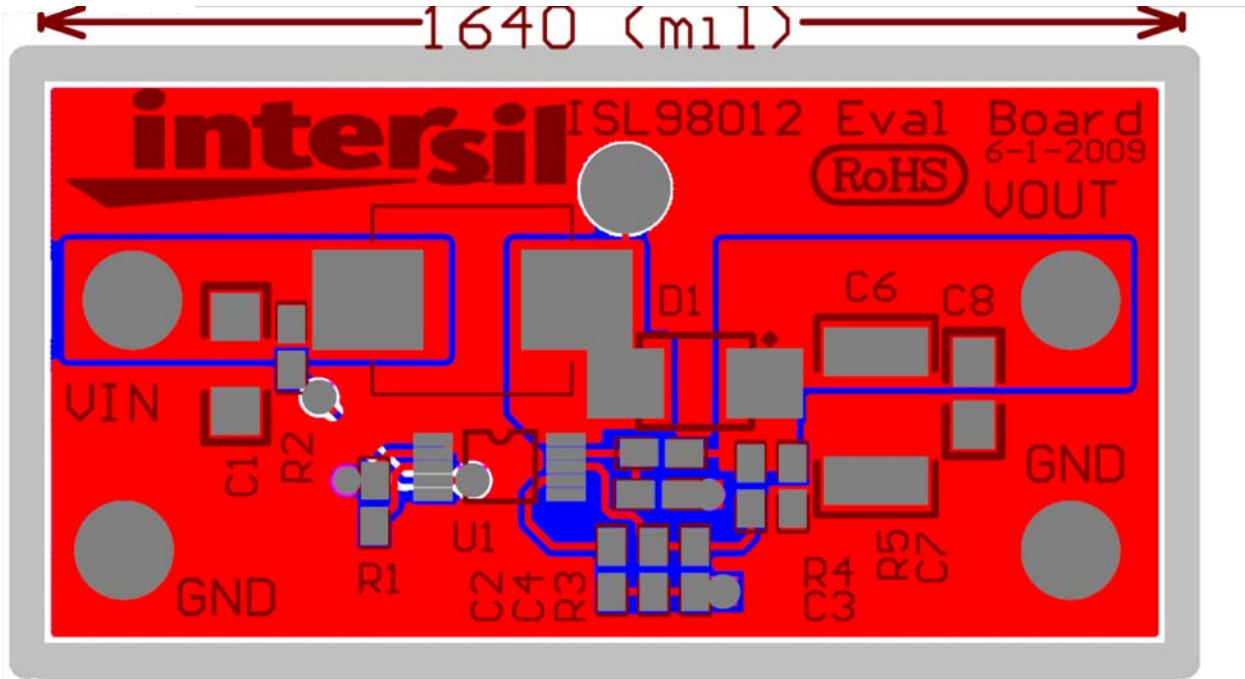
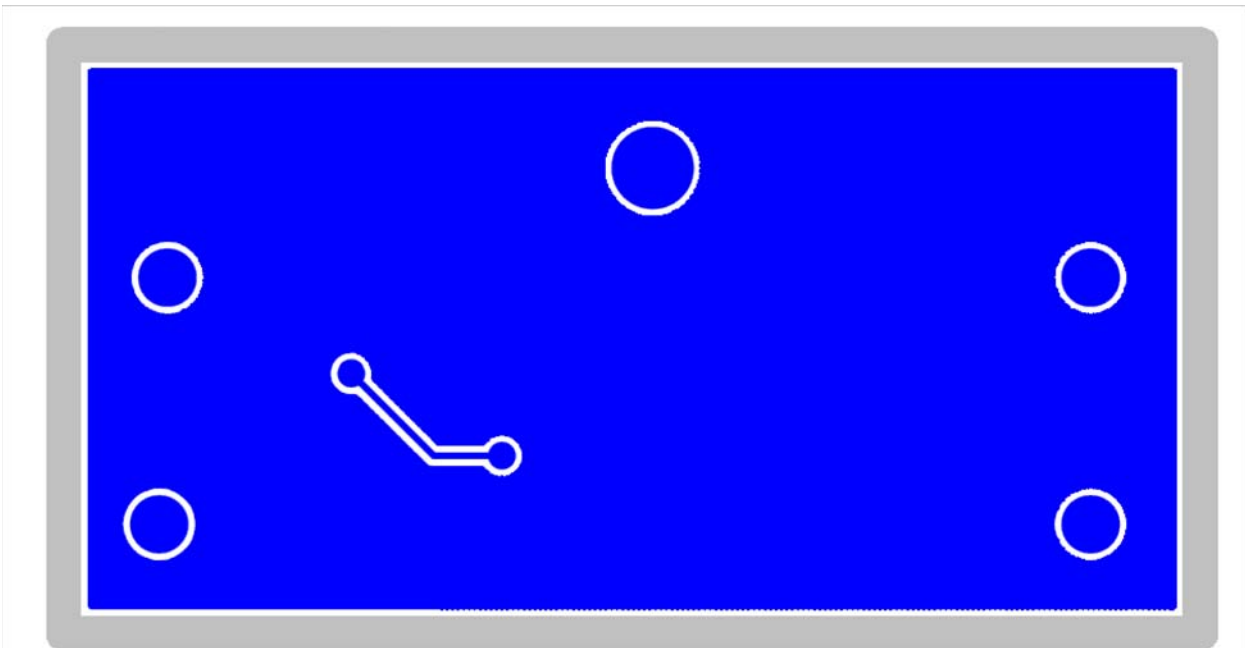

FIGURE 3. ISL98012 EVALUATION BOARD TOP LAYER
FIGURE 4. ISL98012 EVALUATION BOARD BOTTOM LAYER
5. The demo board schematic is shown in Figure 1, the demo board photo in shown in Figure 2, the top layer layout is shown in Figure 3 and the bottom layer is shown in Figure 4.